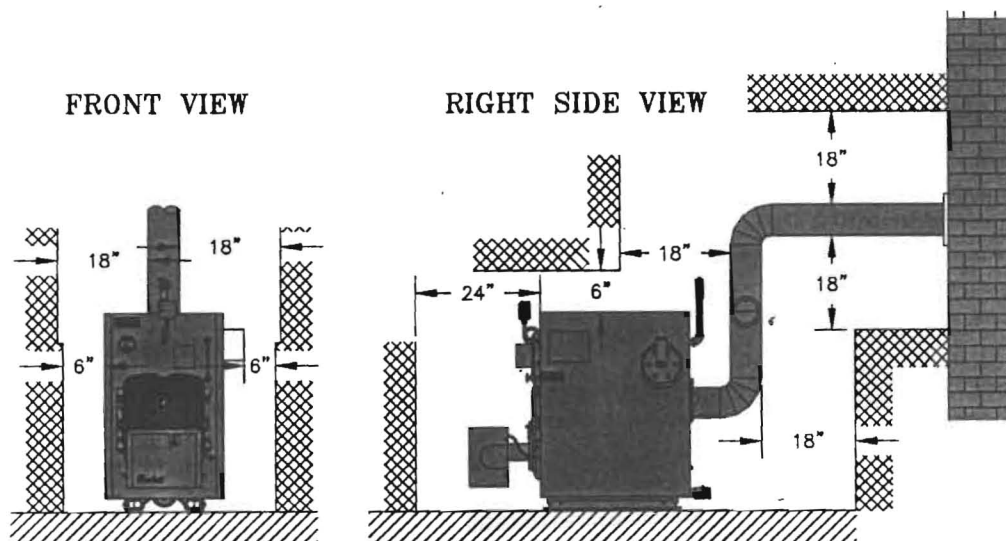

Figure 2: Minimum Installation Clearances To Combustible Materials (Inches)
(Note: This dimension will also be controlled by horizontal to vertical to horizontal smokepipe arrangement - See Figures 2 and 14.)
5. For minimum clearances to combustable materials. See Figure 2.